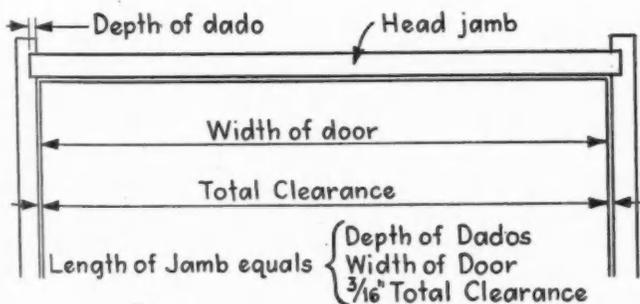

Fig. 1
2. Cut the head jamb with both ends perfectly square having allowed the width of the door plus the depth of both dados and a full  $\frac{3}{16}$ " for door clearance. See fig. 1.